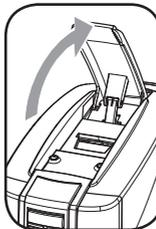

Fig. 1
- 8- Lift the capsule compartment opening lever (Fig. 1).